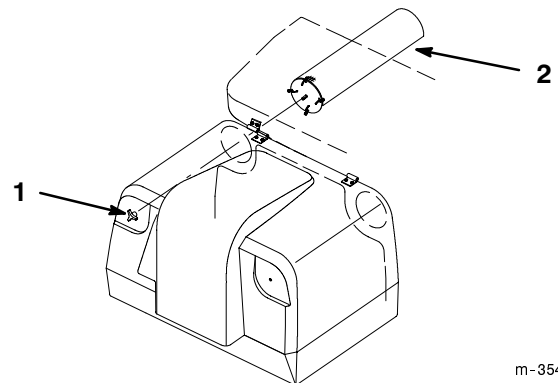

Figure 92
2. With the door open, remove the knobs at the upper front of the hopper and slide the screens out the rear of the hopper (Fig. 92).
4. Replace the screens and secure with knobs (Fig. 92). Close and latch the hopper door.